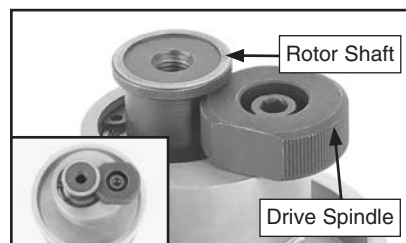

Figure 12. Sander in random orbital mode (pad removed for clarity).
3. To operate the sander in random orbital mode, turn the drive spindle so the knurled face of the drive spindle contacts the flat of the rotor shaft (**Figure 12**).